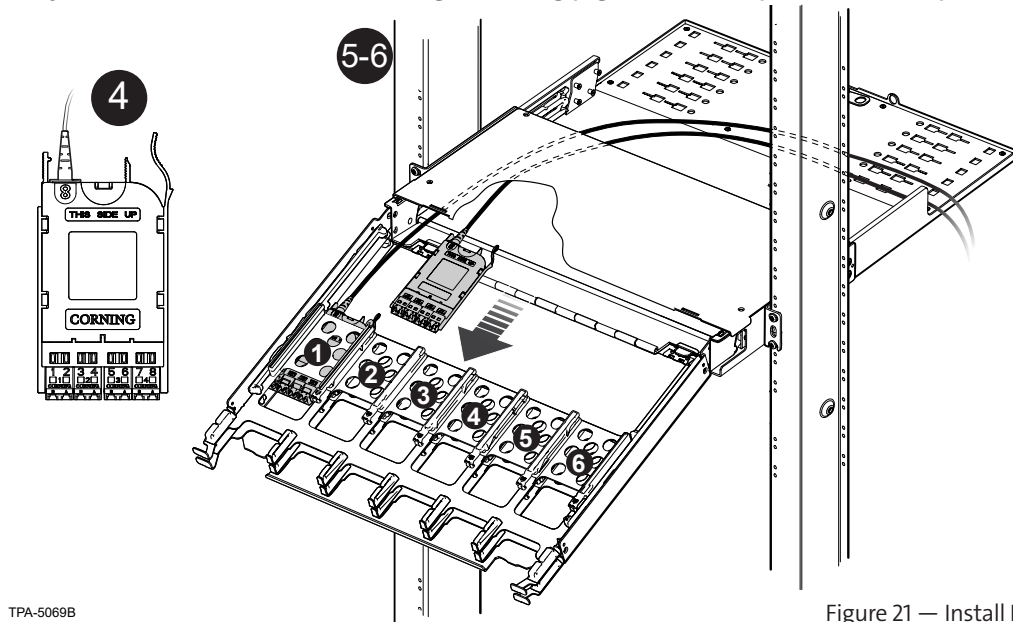

Figure 21 — Install EDGE8™ Module
- Step 5:** Starting with the lower left corner (Tray 1, slot A, as seen from the front), insert the module from the rear until it locks into place (Figure 21).